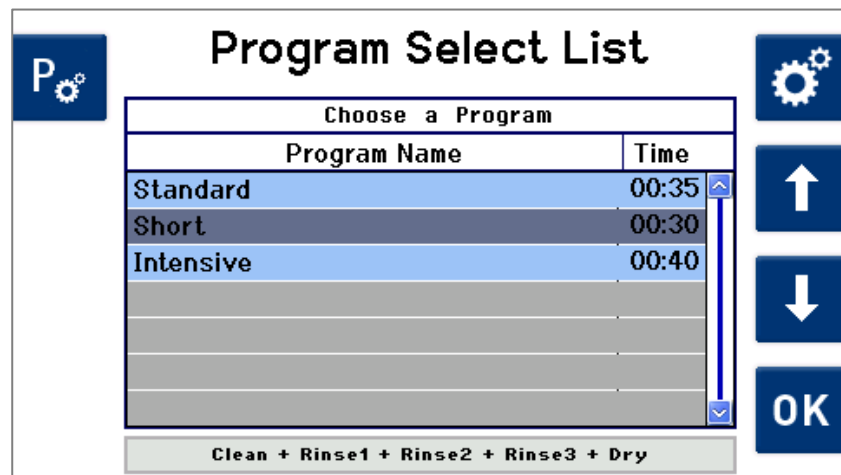

Fig. 7.2.1 *Program Selection* display
**Procedure** On the display screen, select *Program Selection*  (Fig. 7.2.1).
The *Select/Change Programs* display appears (Fig. 7.2.1.1).